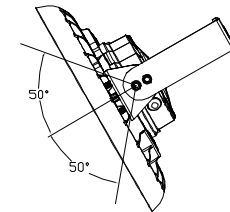

Figure7
4. After installation, connect the wire of the fixture to the mains according to local wiring rules, ensure the connection is stable and make Good protection on connection. By adjusting the brackets screws, user can adjust 50° to the left or right vertically(Figure7)